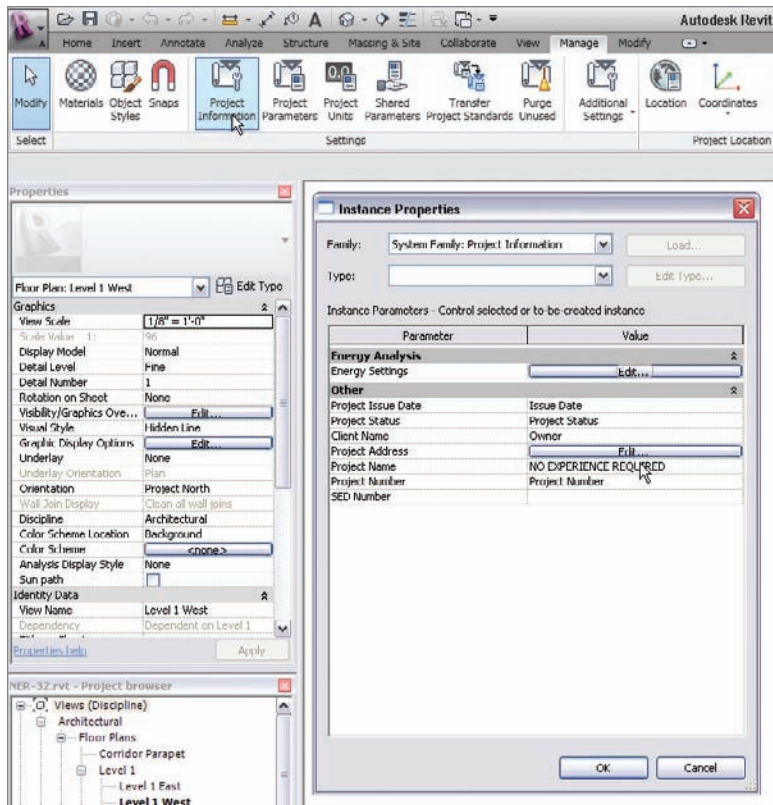

FIGURE 14.22 Filling out the project data
1. On the Manage tab, click Project Information, as shown in Figure 14.22.
2. Click the Edit button next to Energy Settings, as shown to the right in Figure 14.22. The resulting dialog allows you to add the project's geographical information as well as energy data. This will allow you to export the information to GBXML as well as provide information so your architectural model can be imported into Revit MEP.
4. You can fill out the rest of the information as follows (see Figure 14.22):